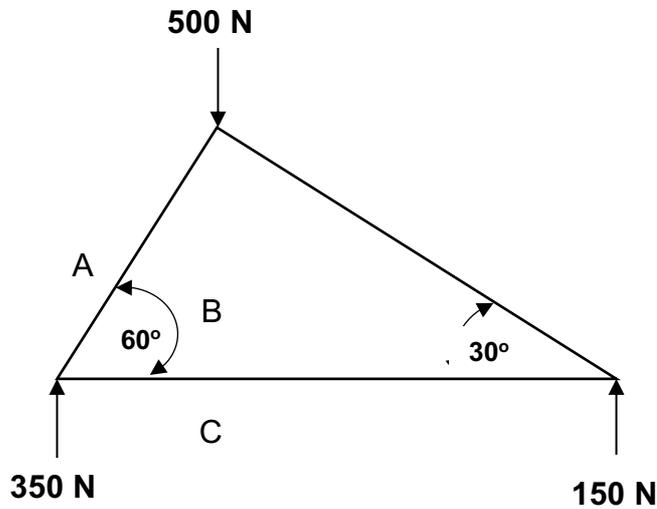

FIGURE 5
3.4 Calculate the nature and magnitude of forces with reference to the components AB and BC in the roof truss in FIGURE 5 below.